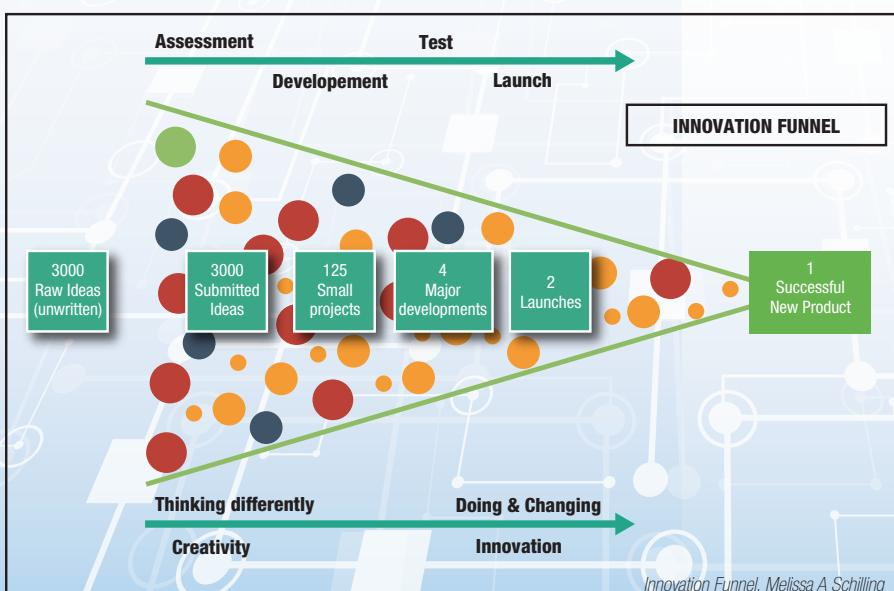

Figure 1.0 : Innovation Funnel
technology is normally driven by the market (Melissa A. Schilling, 2010). Managing innovation or knowing the characteristics of each innovation is essential to an organization. Likewise, systemic process and leadership are also essential in assuring that the technology would be properly managed, leading the organization to make better decisions regarding Capital Expenditure, Operational Expenditure and Return of Investment on a technology development or technology transfer (commercialization) project (Melissa A. Schilling, 2010). Moreover, a study has shown that only one (1) product was successfully commercialized out of three thousand (3000) raw ideas Figure 1.0 (Melissa A. Schilling, 2010), further indicating how crucial managing innovation is.